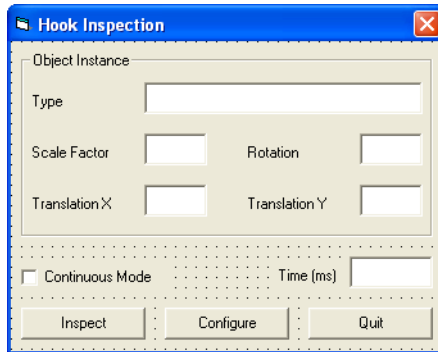

Figure 49 Visual C++ Dialog with Command Buttons
5. Add a check box named **IDC_CHECK_CONTINUOUS**, and set its caption to **Continuous Mode**. Finally, add an edit box named **IDC_EDIT_TIME** and an appropriate label. Place everything to resemble Figure 49